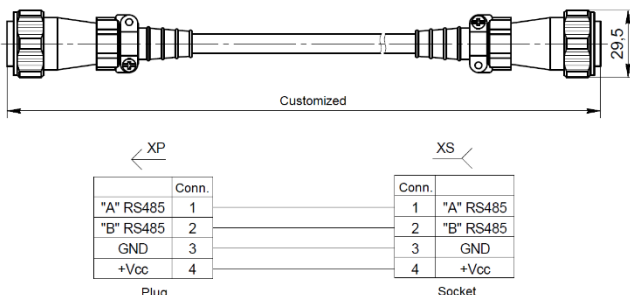

Figure 5. WY20/WY20 universal commutation cable
The WY20/WY20 universal commutation cable from the supplied package (see Fig. 5) is used for connection of the Signal Transducer PS-150(RK) to the MU-150 / MU-150E / MK-140 unit of the DEL-150 System.